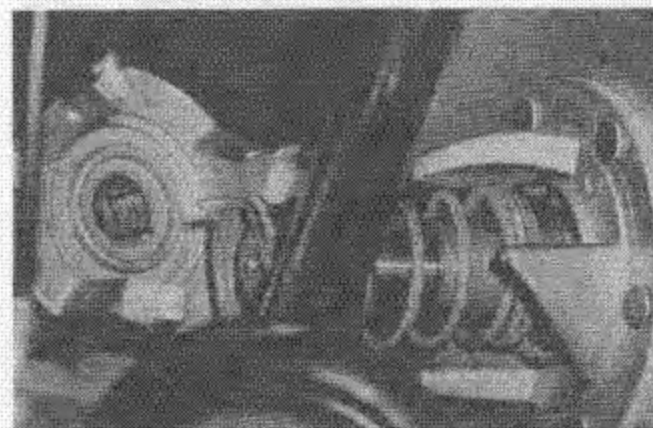

Fig. 50 — Installing Spring and Cam
4. Align spring ends with holes in pulley and cam as shown in Fig. 50.